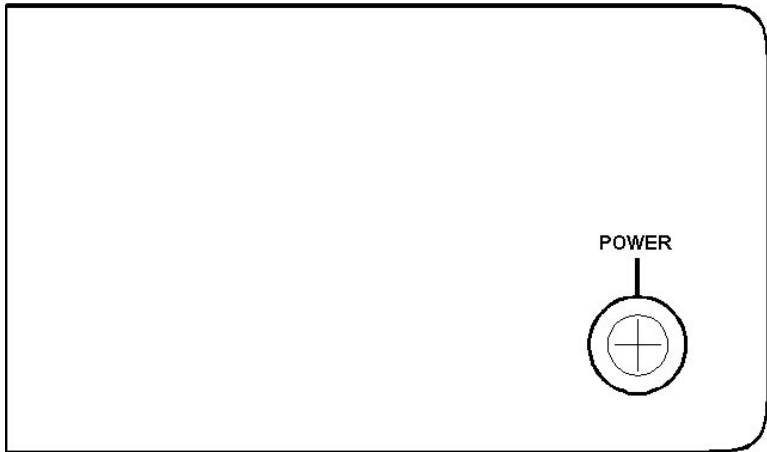

Figure 2 - Control Panel With Single LED Power Indicator
- **Standard Desk Top Station, Without Options** - The standard Station has only a single RED LED to indicate when the power supply is **ON** (see Figure 2).